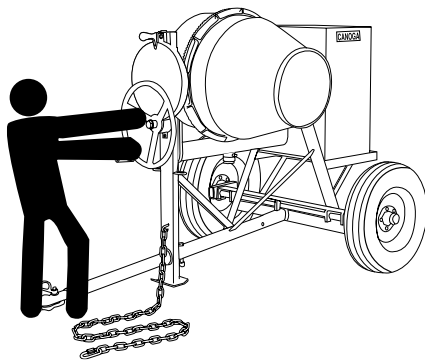

Fig 7. Mixing Drum Positioning
1. To position the drum, make sure the mixer is placed on firm level ground, then pull up on the dump latch (Figure 7) and turn the hand wheel until the drum is at the desired position. Once the drum is at the desired position, pull down on the dump latch to lock the drum in position.